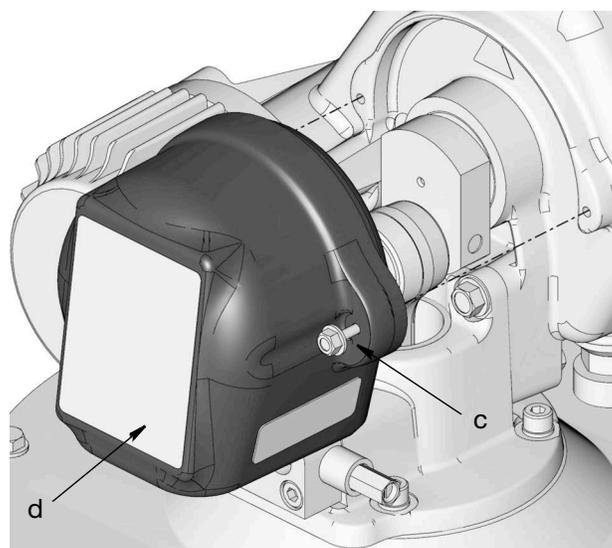

FIG. 13
18. Reinstall cover (d) using bolts (c) (FIG. 13). Use a wrench to tighten bolts securely.